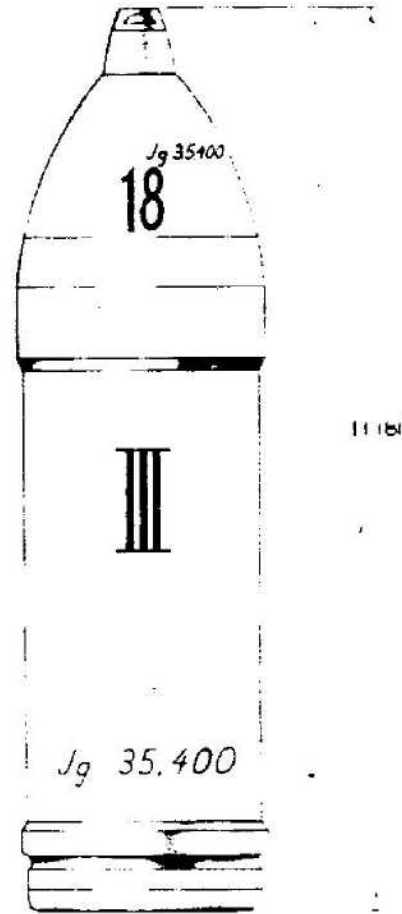

Figure 372—Hollow Charge Projectile Type 39,
**GERMAN NOMENCLATURE:** 7.5-cm Gr. 39 (Granate 39). (See fig. 372.)